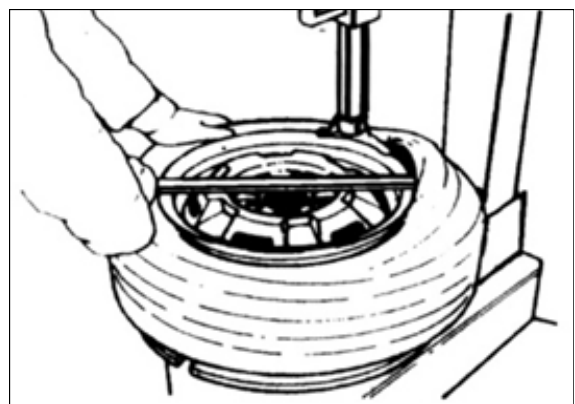

Fig. 28
- Lift the bead onto the mounting/demounting head with tyre lever, and step on the turntable turning pedal (15) to turn the turntable clockwise till the bead is completely separated **(Fig. 28)**. It is suggested to place the mounting/demounting head about 10 mm to the right side of the air valve if the wheel has a tube, so as not to damage the tube.